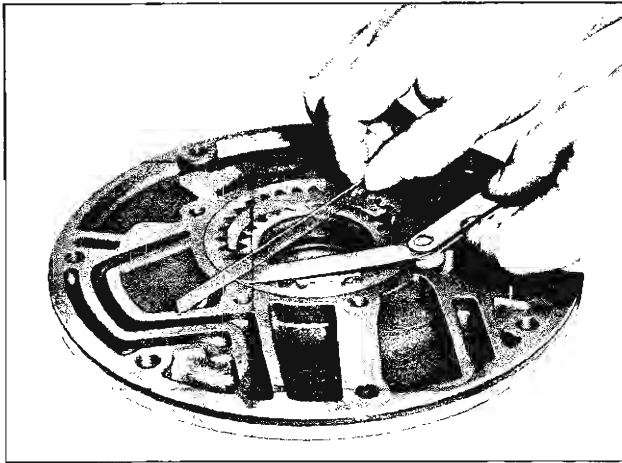

Fig. 24PG—Checking Gear End Clearance
- c. Gear end clearance (fig. 24PG) should be .0005"-.0015".